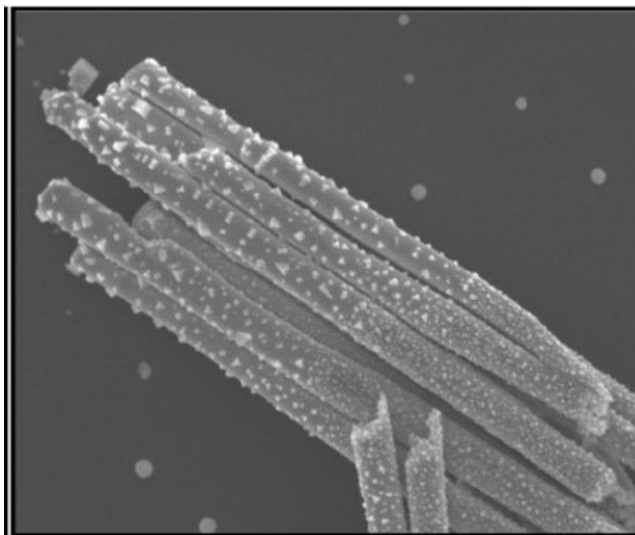

Figure 2 : Nanoparticles embedded polymer nanorods prepared by electrodeposition method.
- (i). Explain the process of synthesizing nanoparticles embedded polymer nanorods shown in **Figure 2** by giving one specific example. (6 marks)